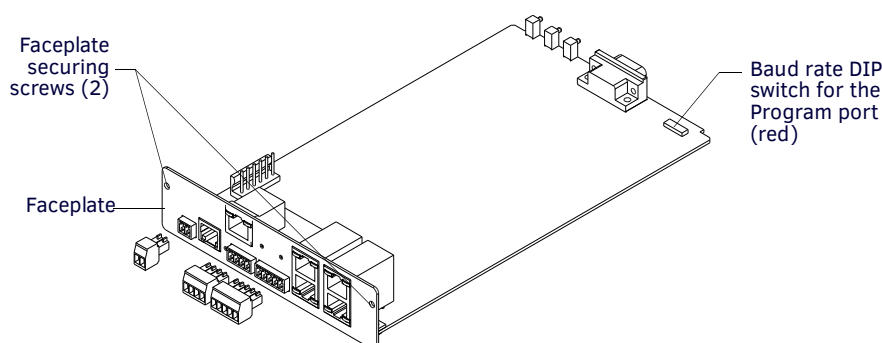

FIG. 4 Component locations on the NXC-ME260/64
1. Locate the red baud rate DIP switch (FIG. 4).
2. Unsecure the NXC-ME260/64 by unscrewing the two faceplate securing screws (on both sides of the faceplate) using a Phillips-head screwdriver (FIG. 4).
3. Carefully slide-out the card and locate the red baud rate DIP switch (FIG. 4).